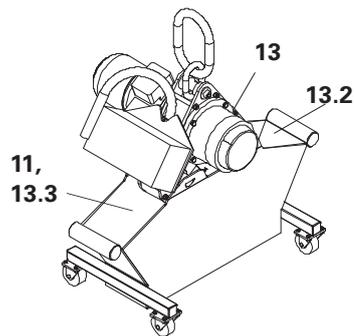

Fig. A6.21
4. Remove crane lifting gear and put Lifting Head (11) with chain (13.3), chain (13.2) and Lifting Mechanism STM (13) in the chain casing. (Fig. A6.21)